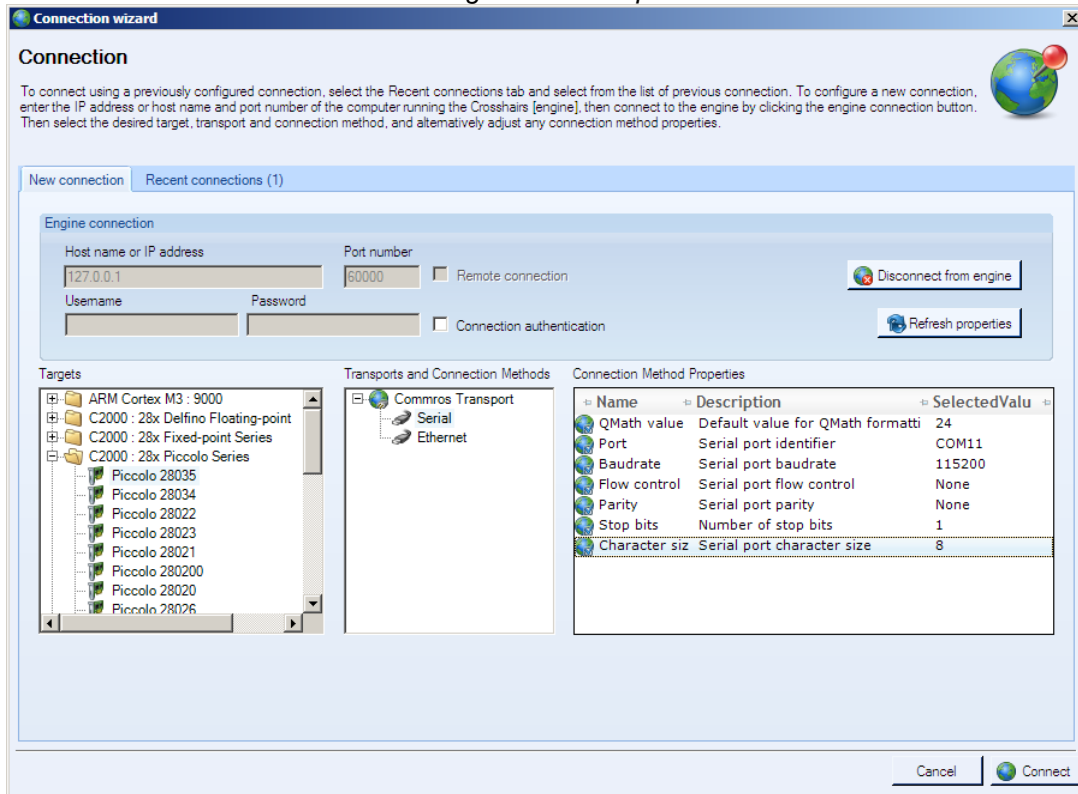

Fig5: GUI Setup Connections
- 3) The GUI should auto-detect and connect to your DRV8412-EVM. If auto-connect fails you will need to set up the connection manually. The Connection Wizard is accessed through the Connection menu. Click on "Connect to engine" to view a list of available targets. Now setup the Connection Wizard Dialog to match figure 5. Select *Piccolo 28035* from the Target list and *Serial* for connection method. You will need to determine the correct COM port number for your system. This can be found by going to *Control Panel->System->Hardware tab->Device Manager->Ports(COM & LPT)*. And look for the one which is described as USB Serial Port or similar. Hit Connect once done.